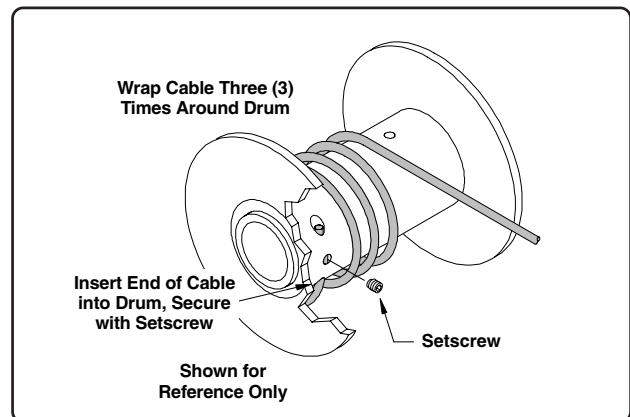

Fig. 37
Attach cable to winch drum. Make three (3) wraps of cable around the winch drum, then insert the end of the cable into one of the larger holes on the drum (it may be necessary to loosen the setscrew to allow the cable to slide through the opening, See Fig. 37).